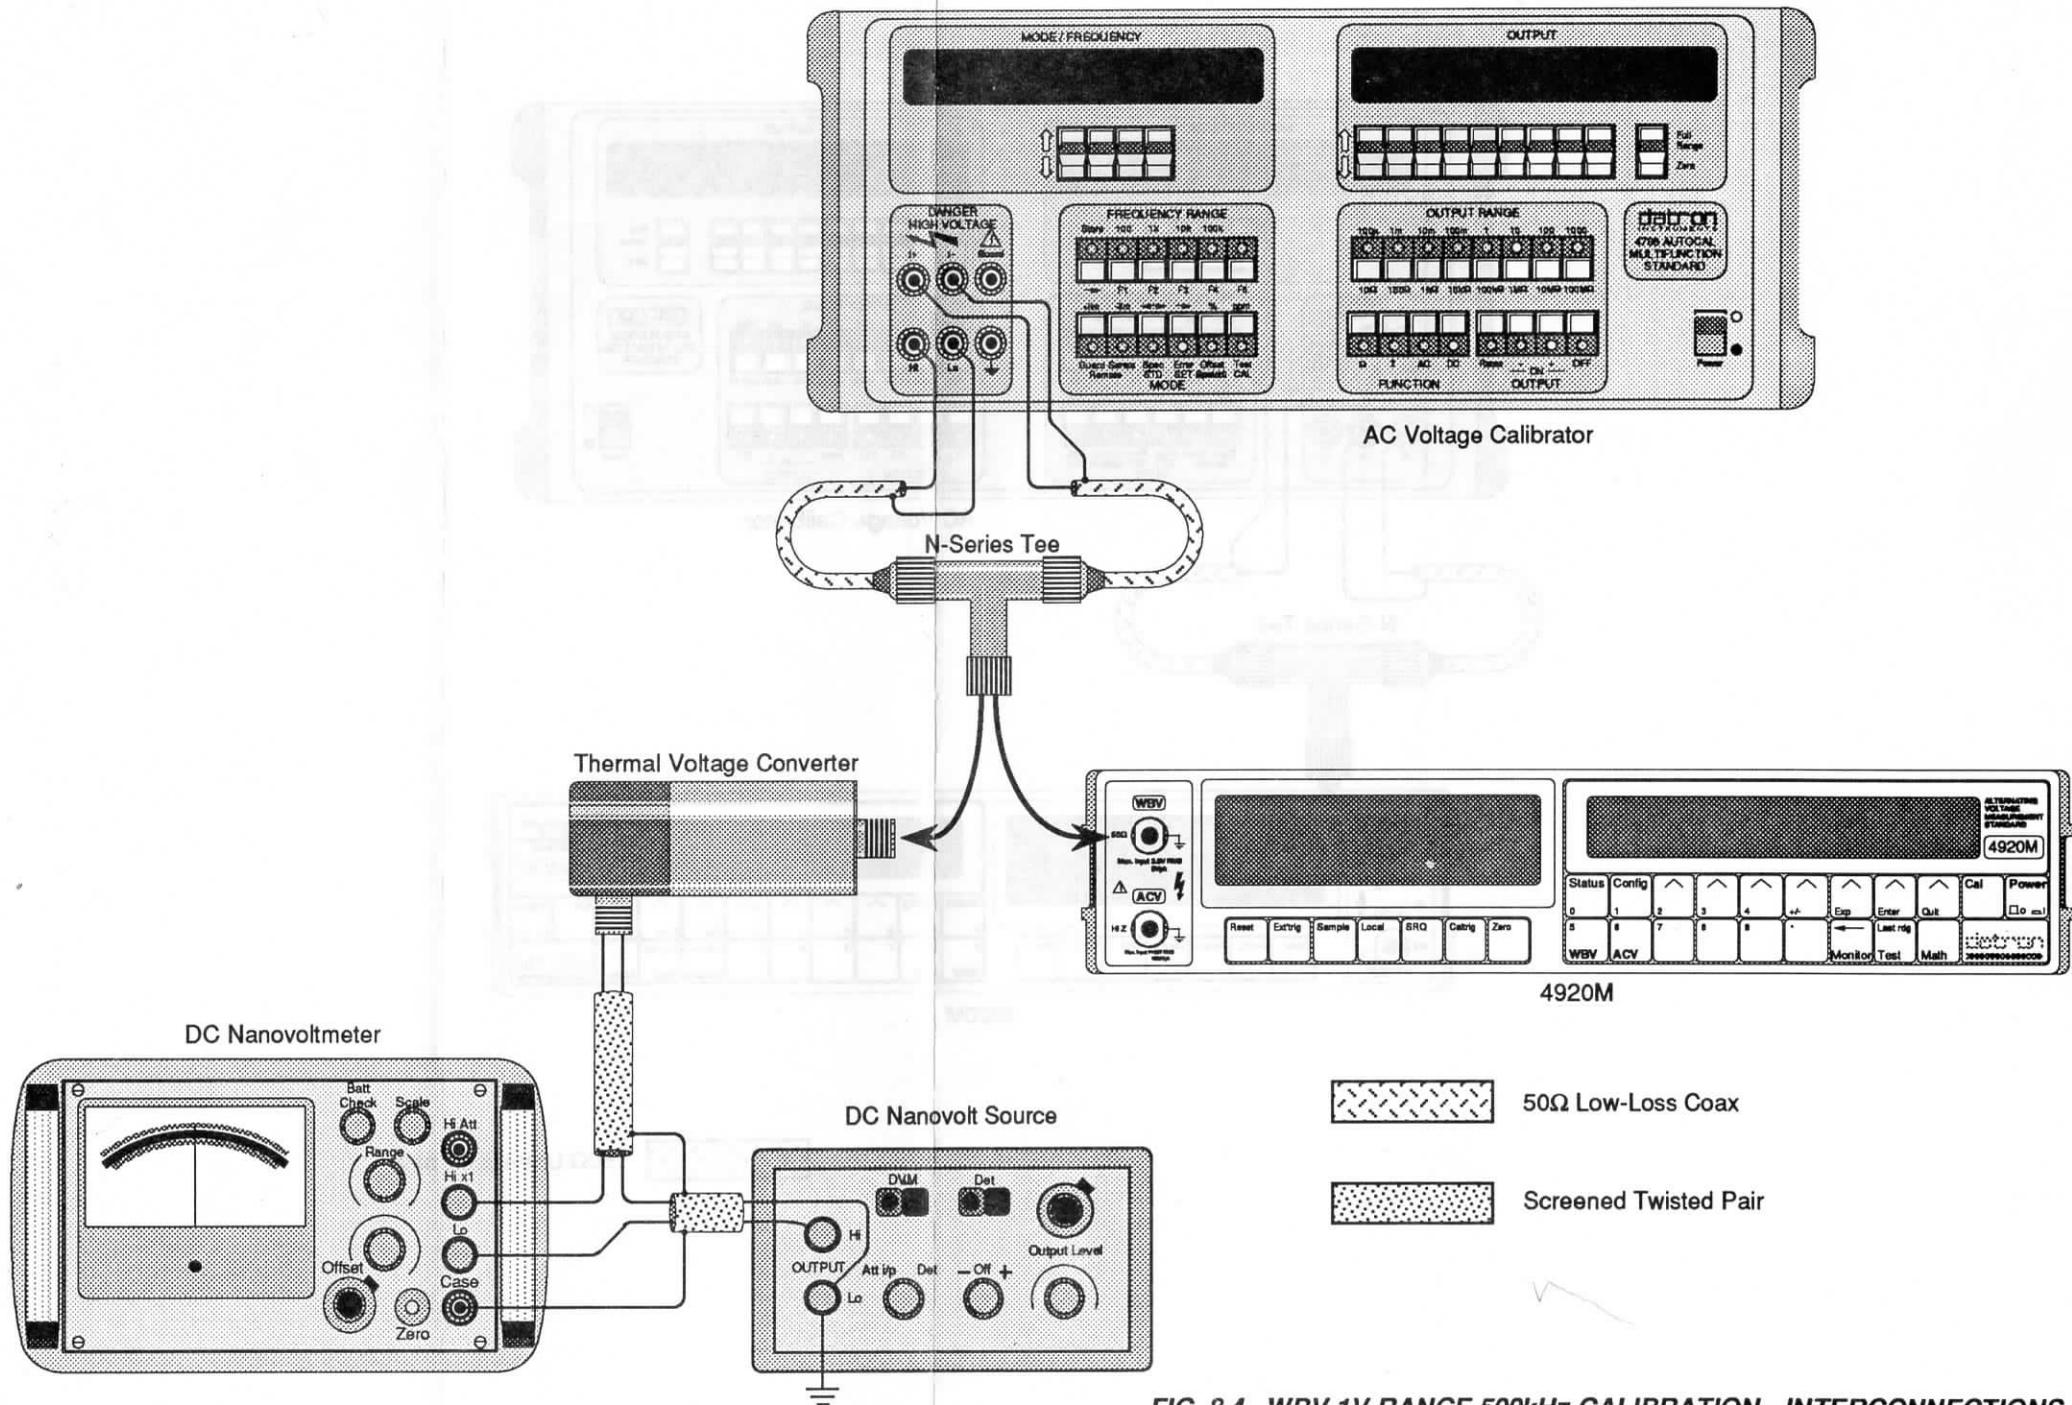

FIG. 8.4 WBV 1V RANGE 500kHz CALIBRATION - INTERCONNECTIONS
2. Connect the thermal voltage converter to the AC voltage calibrator as shown in Figure 8.4.